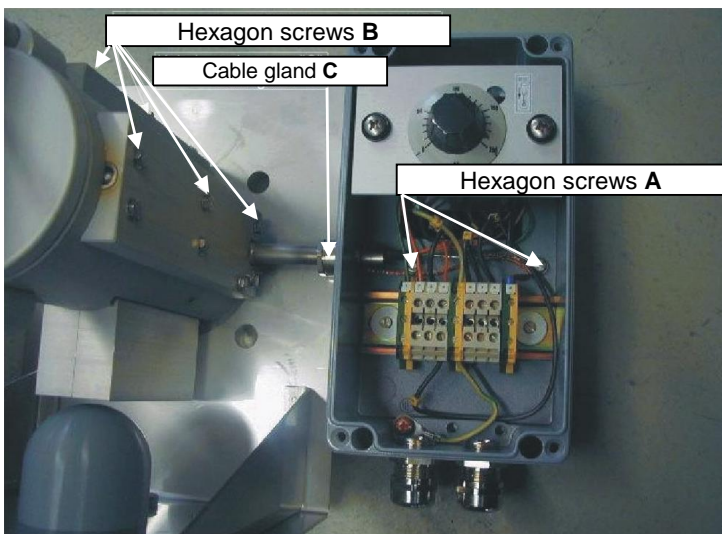

Figure 21 Position of fixing screws of connection box, thermostat sensor and heating cartridge carrier plate
- Unscrew the two hexagon head cap screws **A** (figure 21) in the back board of the connection box with which this one is mounted to the retaining plate.
- Unscrew the hexagon head cap screws **B** (figure 21) for the fastening of the heating cartridge retaining plate and the thermostat sensor retaining plate.
- Loosen the cable gland **C** (figure 21) for the heating cartridge and the capillary tubes of the thermostat.
- Draw the heating cartridge through the cable gland **C** (figure 21) out of the connection box.